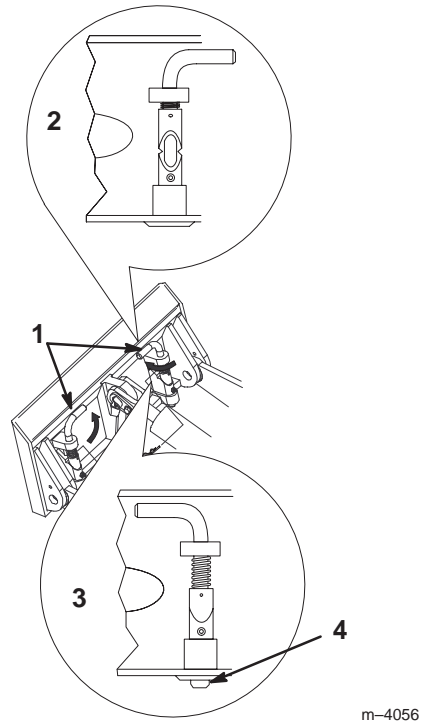

Figure 20
7. Engage the quick attach pins, ensuring that they are fully seated in the mount plate (Fig. 20).